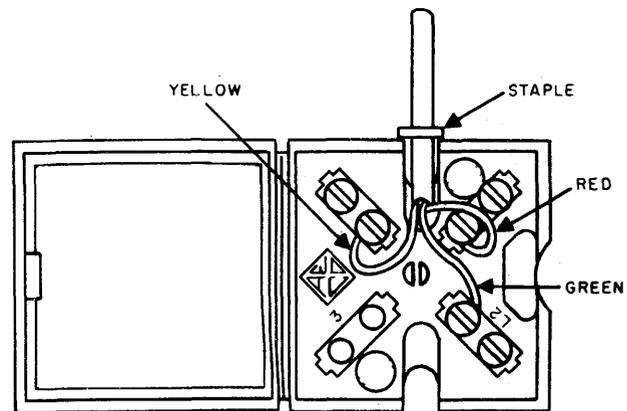
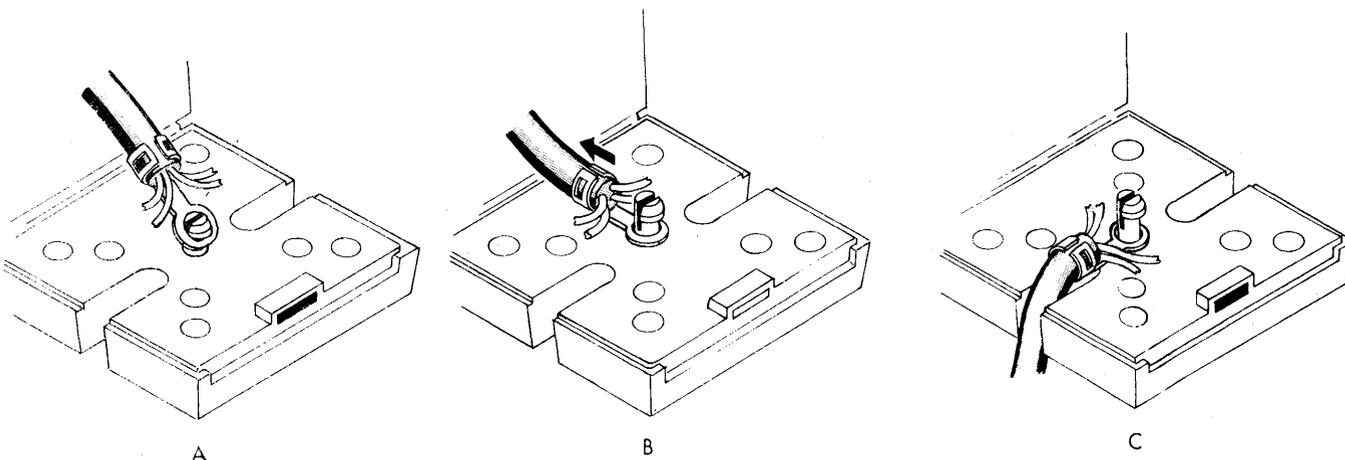

Figure 32. GTE AE Type 13 Connecting Block.
Figure 33. Method of Attaching Ring-band Strain Relief to Split Center-post on GTE AE Type 13, 14, or 15 Connecting Blocks.
7.13 The GTE AE Type 13, 14 and 15 blocks are suitable for line cords equipped either with wing-band or ring-band strain relief. In the case of the wing-band type, the wings are secured in slits molded at either side of the cord entry points (Figure 32). When a ring-band strain relief is used, it is first turned so that the jacketed end of the cord is passing over the hinged side of the block (between terminals 3 and 4G), secured to the split center post in the three steps illustrated in Figure 33 and then turned back to lie in its exit channel. Either channel may be used for wire entry or for cord exit, thus permitting the block to be mounted with its hinged cover opening either to the left or to the right. Because the inclined ramp of the channel tends to force the wire away from the mounting surface, the wire should be stapled near the point of entry. If the station wire emerges from a hole in the baseboard, locate the block with the entry channel positioned over the wire hole. The mounting holes will accommodate a number 8 screw, but, because of the depth of the counterbore, a cabinet screwdriver is required for installation. The screw nearer the center on each terminal should be used for the station wire and the outer screw for the line cord conductor. Since the T&R terminals lie on the same side of the entry channel, particular care should be taken to insure that the line wires are separated as far as possible. If it is necessary to convert a Type 13 block to a Type 14, fit the legs of a D-150209-A terminal link into the vacant openings in the block at the terminal 3 position, and push down equally on the two screw heads to press the link into place. To convert a recent Type 14 block to a Type 15, perform the same operation with a single-screw D-150289-A terminal link at the terminal 5 position.